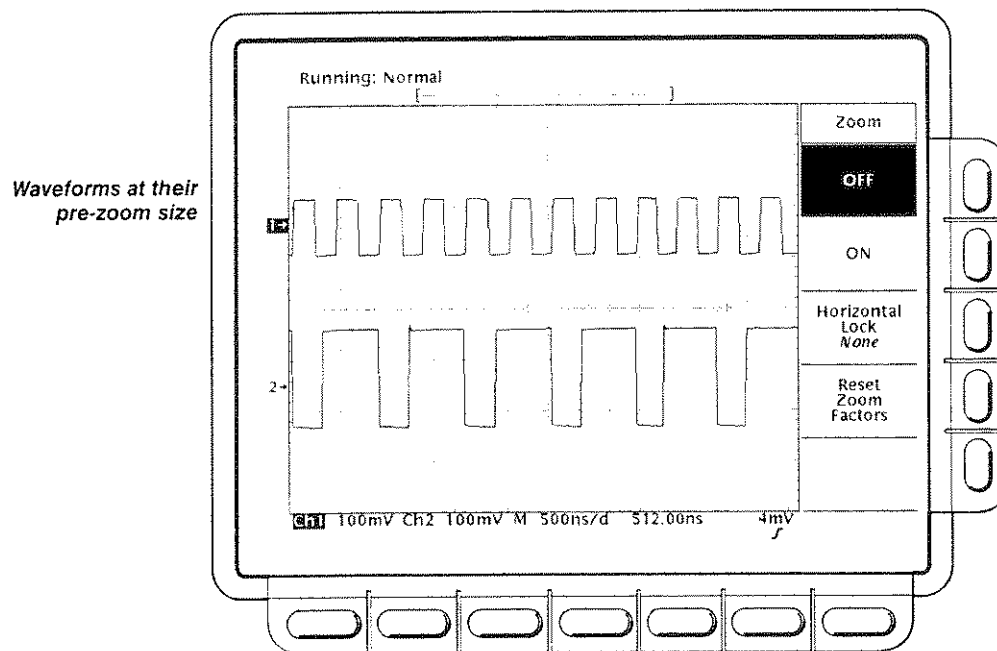

Figure 3-72: Zoom Menu
1. Press **ZOOM → ON** (side). (See Figure 3-72.) The **ZOOM** front-panel button should light up.